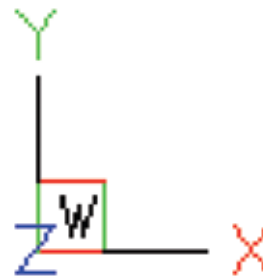

Figure 8.2
2. Reset the **User Coordinate System (UCS)** to the lower left corner of the rectangle. See Figure 8.2.